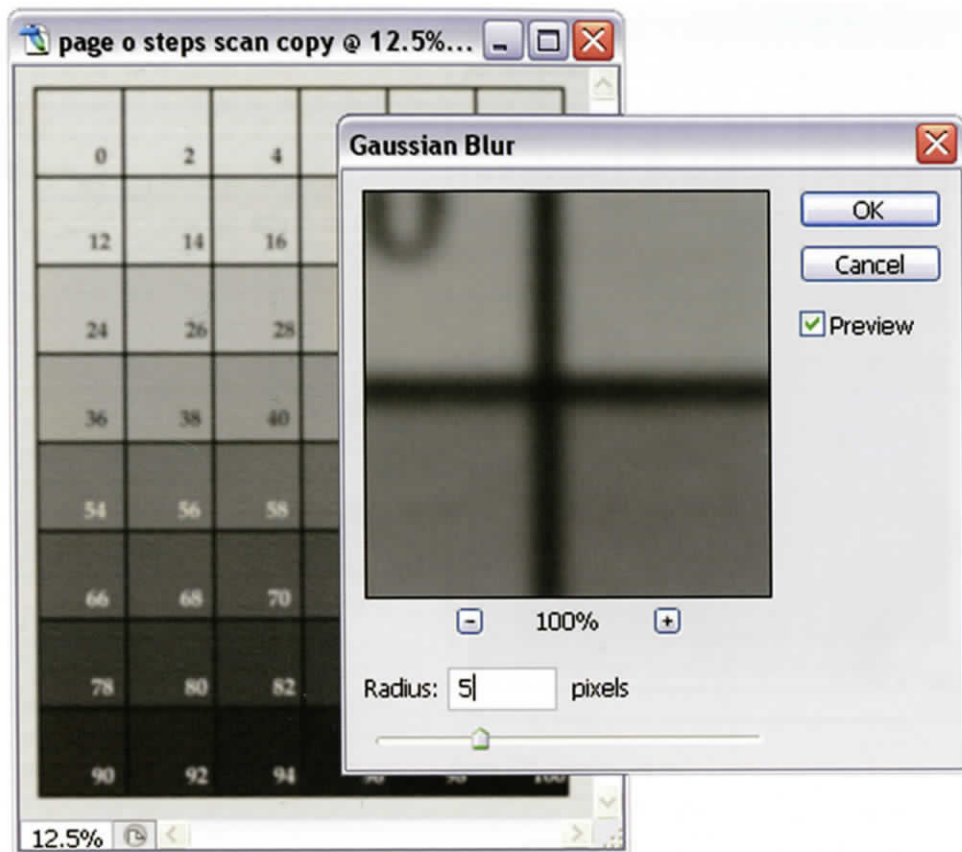

Figure 7-6 Gaussian Blur window.
2. Blur the image to eliminate any slight variations in the step tablet print. Go to Filter > Blur > Gaussian Blur (Figure 7-6) and set the radius; typically a radius of 3–4 pixels is sufficient. Use the highest radius that allows you to read the numbers in the step squares. You will need to read these when you record the data for the correction curve.